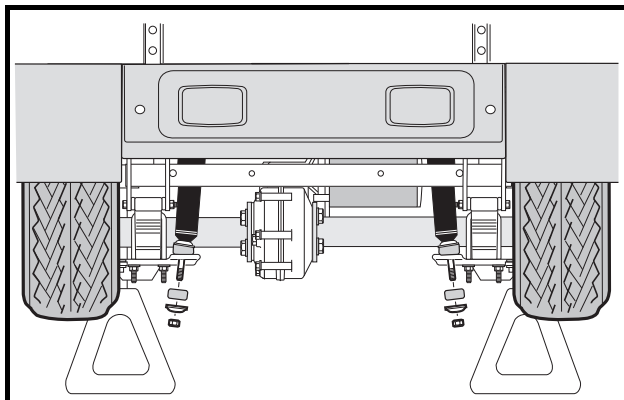
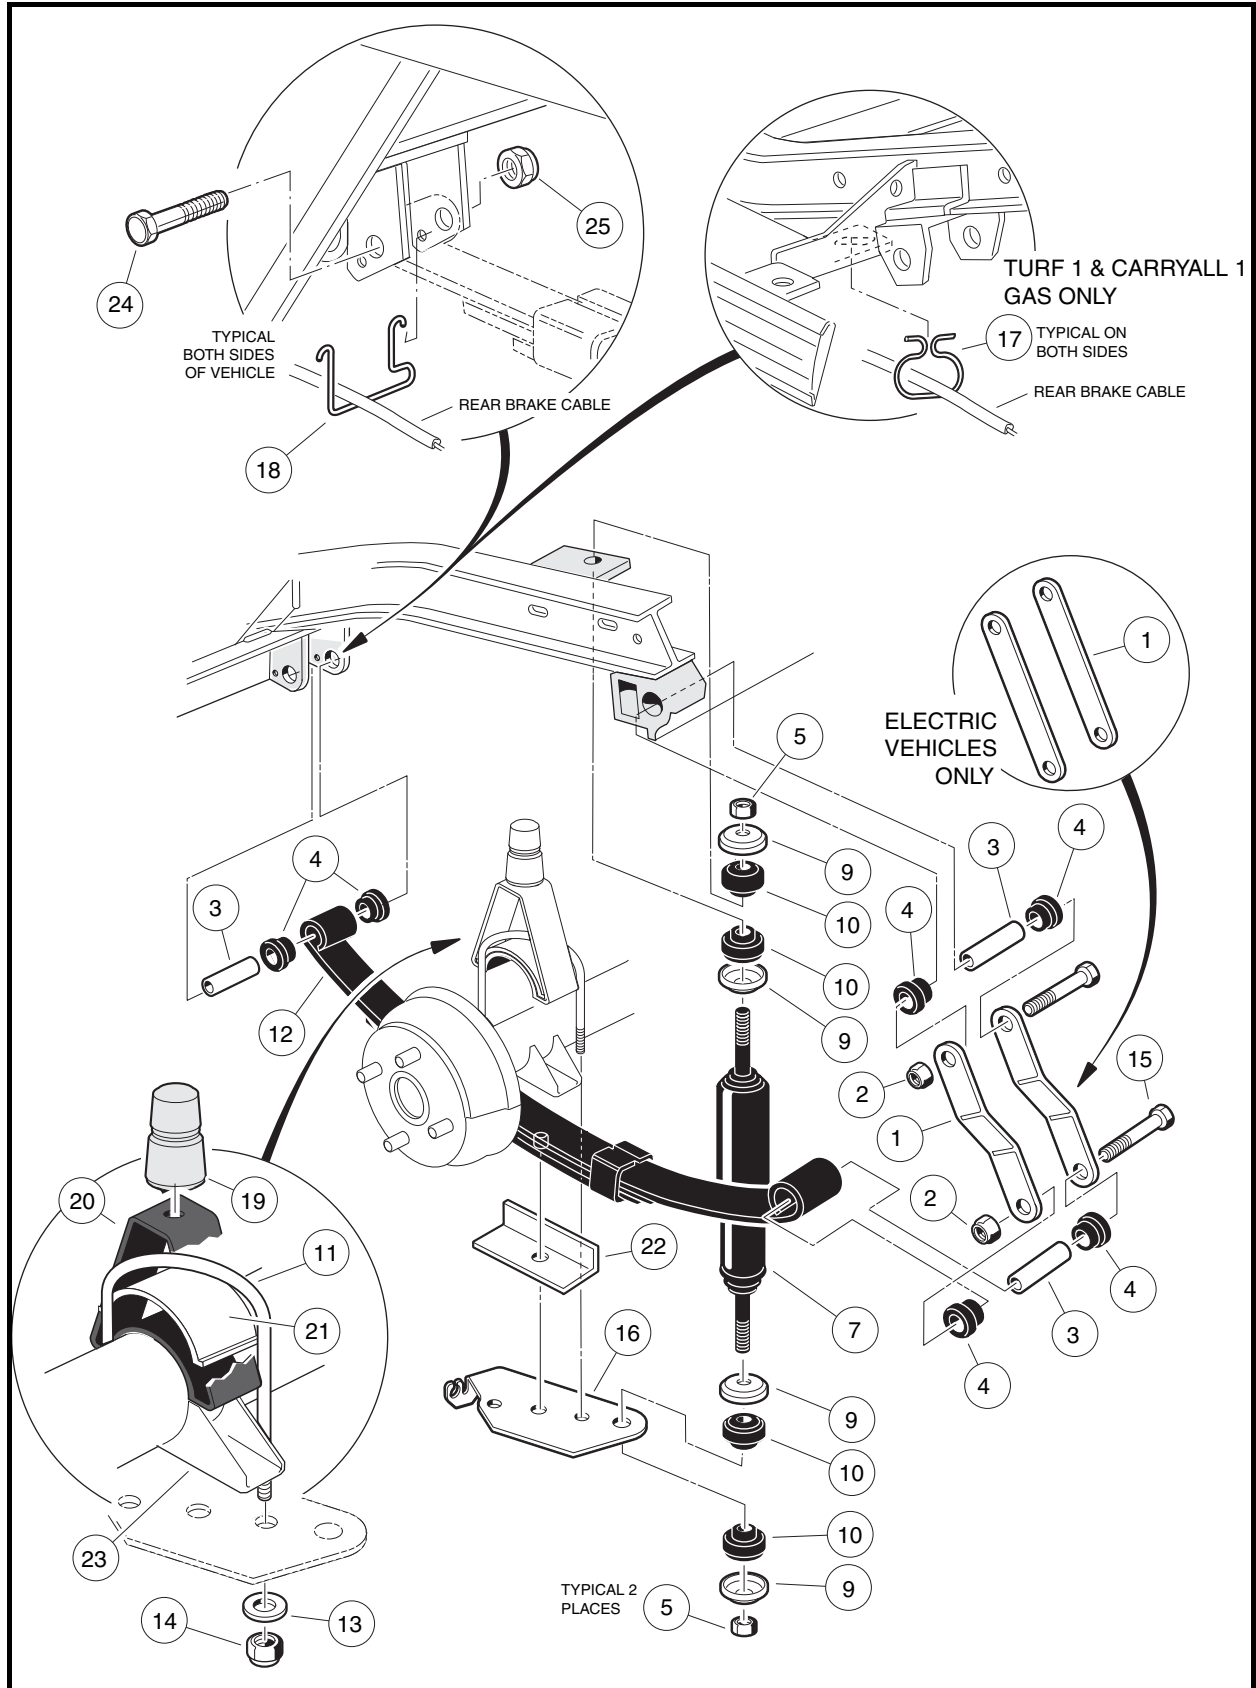
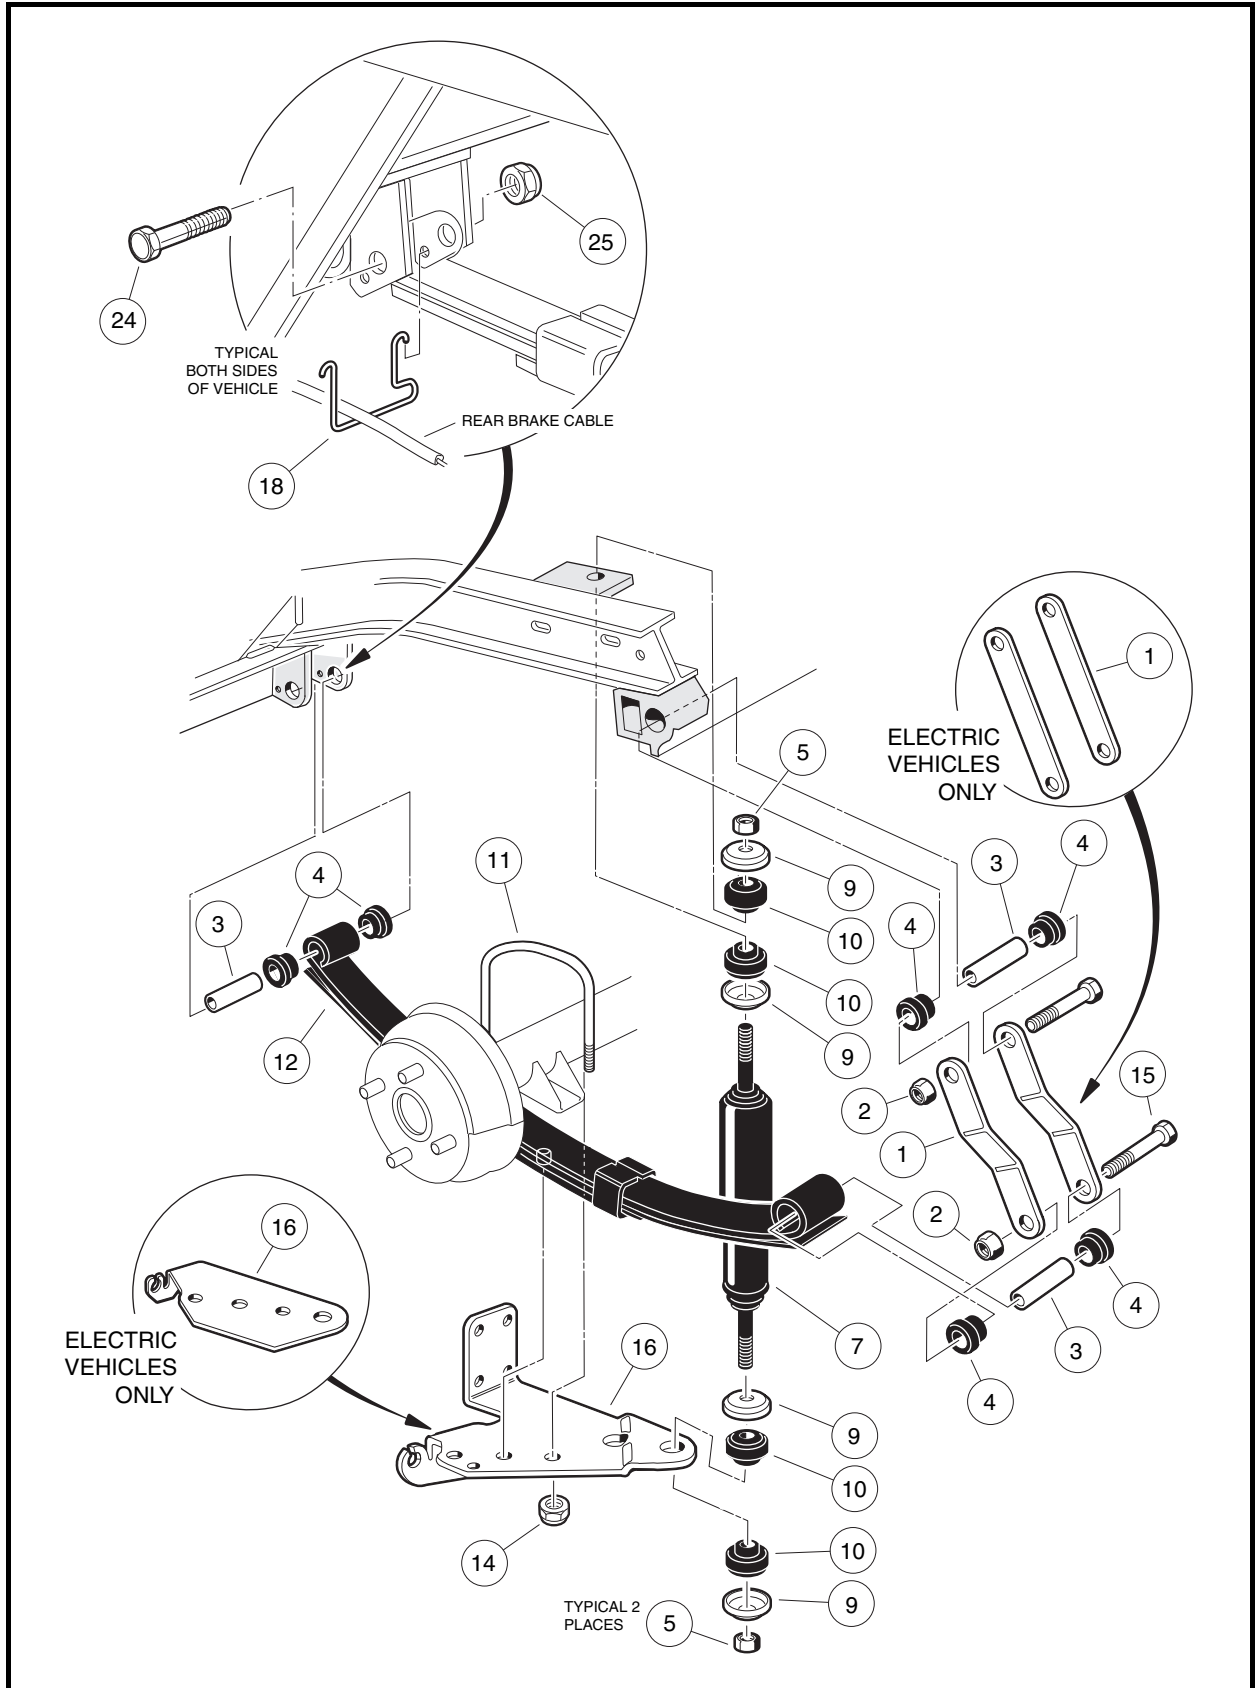

Figure 9-1 Shock Absorber Removal
Figure 9-3 Rear Suspension – Turf 1 and Carryall 1 Vehicles
Figure 9-4 Rear Suspension – All Turf and Carryall Vehicles Except Turf 1 and Carryall 1
1. Check shock absorbers (7) for damage and fluid leakage around the lower housing of the shock absorber body. Replace damaged or leaking shock absorbers (**Figure 9-3, Page 9-4 or Figure 9-4, Page 9-5**).
2. To remove a shock absorber (7), remove the nut (5), cup washer (9), and rubber bushing (10) from the upper shock absorber stem.
3. Remove lower mounting hardware (5, 9 and 10) on shock absorber lower mount (**Figure 9-3, Page 9-4 or Figure 9-4, Page 9-5**). See also **Figure 9-1, Page 9-1**.
2. On the upper shock absorber mount, tighten nut (5) until rubber bushing (10) expands to size of cup washer (9) (**Figure 9-3, Page 9-4 or Figure 9-4, Page 9-5**).
3. On the lower shock absorber mount, install mounting hardware. Tighten the nut (5) until the rubber bushing (10) expands to the same diameter as the cup washer.
**NOTE:** Turf 1 and Carryall 1 vehicles are equipped with jounce bumpers (**Figure 9-3, Page 9-4**).
5. Remove lower nut (5), cup washer (9), and rubber bushing (10) from shock absorber (7) (**Figure 9-3, Page 9-4 or Figure 9-4, Page 9-5**).
- 6.1. Remove the lock nuts (14) and flat washers (13) (if present) attaching the U-bolt (11) to the shock mount bracket (16). Remove jounce bumper mount (20) and spacer (21) (**Figure 9-3, Page 9-4**).
- 6.2. Allow shock mount bracket (16) to rotate downward and remove spring retainer (22). Do not disconnect brake cable from bracket (**Figure 9-3, Page 9-4**).
7. **All Turf and Carryall vehicles except Turf 1 and Carryall 1:** Remove the lock nuts (14) attaching the U-bolt (11) to the shock mount bracket (16). Do not disconnect brake cable from bracket (**Figure 9-4, Page 9-5**).
8. Raise axle with floor jack until axle saddle (23) is 1 inch (2.5 cm) above spring (**Figure 9-3, Page 9-4**).
9. Remove bolt (15) and lock nut (2) attaching the leaf spring (12) to the rear shackle (1) (**Figure 9-3, Page 9-4 or Figure 9-4, Page 9-5**).
10. Allow rear of leaf spring (12) to rest on the ground and remove the bolt (24) and lock nut (25) attaching the front of the spring to the vehicle frame (**Figure 9-3, Page 9-4 or Figure 9-4, Page 9-5**). Remove spring from vehicle.
11. Inspect the rubber bushings (4) and steel sleeves (3) in the spring eyes and replace them if they are worn or damaged (**Figure 9-3, Page 9-4 or Figure 9-4, Page 9-5**).
1. Install rubber bushings (4) and steel sleeves (3) into leaf spring eyes if bushings were removed (**Figure 9-3, Page 9-4 or Figure 9-4, Page 9-5**).
2. Place front of leaf spring (12) into vehicle frame and insert bolt (24) through frame and leaf spring eye. Install lock nut (25) and tighten to 15 ft-lb (20.3 N·m).
3. Align the other end of leaf spring with the holes in the spring shackles (1). Insert bolt (15) through leaf spring eye and shackles. Install lock nut (2) and tighten to 15 ft-lb (20.3 N·m). Lower transaxle onto leaf spring (12). **See following CAUTION.**
- When placing transaxle on spring, be sure to position locating bolt on the spring in the locating hole in the transaxle saddle (23) (**Figure 9-3, Page 9-4**).
- 4.1. Install spring retainer (22) and shock mount bracket (16) onto locating bolt at bottom center of leaf-spring (**Figure 9-3, Page 9-4**). **See preceding CAUTION.**
- 4.2. Position jounce bumper mount (20) with spacer (21) onto axle tube. Install U-bolt (11), flat washers (13) (if present), and lock nuts (14). Tighten U-bolt to 25 ft-lb (34 N·m) (**Figure 9-3, Page 9-4**).
#### 5. All Turf and Carryall vehicles except Turf 1 and Carryall 1: Install shock mount bracket (16) onto locating bolt at bottom center of leaf-spring (**Figure 9-4, Page 9-5**). **See following NOTE.**
- 5.1. Install U-bolt (11) and lock nuts (14). Tighten U-bolt to 25 ft-lb (34 N·m) (**Figure 9-4, Page 9-5**).
1. Grip jounce bumper (19) and pull from bumper mount (20) (**Figure 9-3, Page 9-4**).
1. Insert jounce bumper (19) into bumper mount (20) (**Figure 9-3, Page 9-4**). Make sure the entire circumference of bumper is seated firmly in mounting hole.